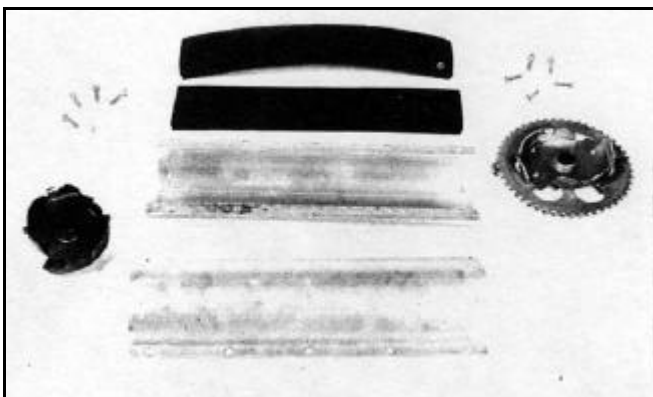

Figure 119
6. Remove all screws retaining the rubber paddles to the rotor shells (Figure 119).
7. Remove the impeller sprocket/end cap assembly from both rotor shells (Figure 119).
5. Remove both rotor shafts from each end of the sprocket and tube assembly (Figure 119). Inspect shafts, bushings, and sprocket.
6. Remove all screws retaining paddles to sprocket/tube assembly (Figure 119). (Note position of reinforcing strap over paddles.)
7. Remove all ten screws retaining the rubber paddles to the rotor shells (Figure 119).